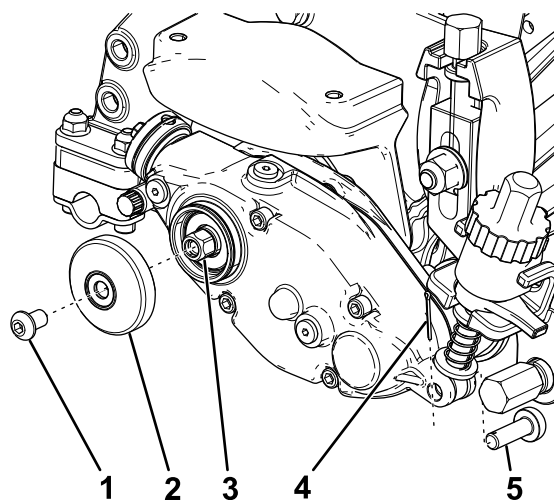

Figure 2
1. Remove the cotter and adjuster pins from the adjuster-arm assembly rod (Figure 2).
2. Remove the hex-socket screw and outer cover from the groomer drive box (Figure 2).
4. Using a block of wood or having another person restrain the reel, loosen the hex-head drive (Figure 2).